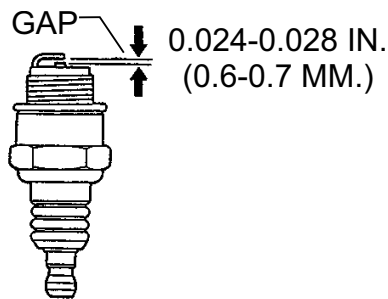

Figure 21. Spark Plug Gap
- Remove and clean the spark plug (Figure 21), then adjust the spark gap to 0.024 ~0.028 inch (0.6~0.7 mm). This unit has electronic ignition, which requires no adjustments.